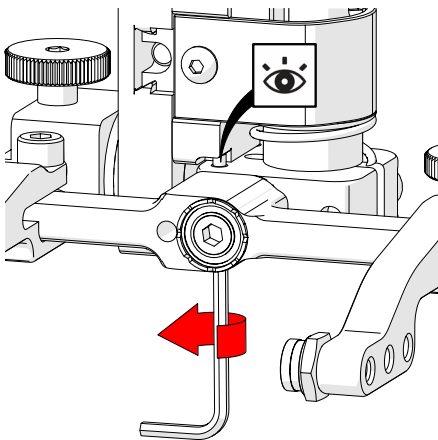

Fig. 111 - Raise opposite 90° stop post
8. Raise the stop post on the opposite side until the side of the post clearly contacts the 90° stop point on the probe holder's base (Fig. 111).